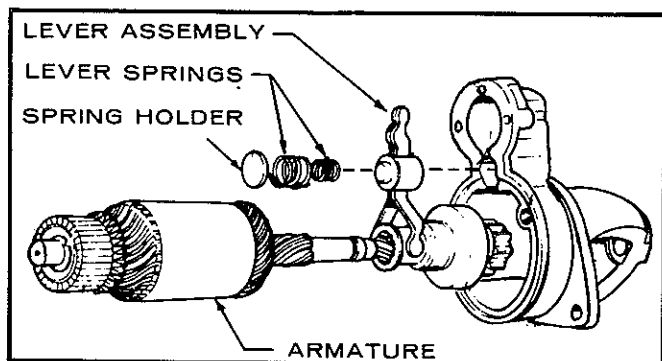

FIGURE 18-10. REMOVING THE ARMATURE
4. On the solenoid shift units remove the armature from the front bracket. Be careful not to miss the small steel washer used in the end of the armature shaft. Remove the shift lever at the same time the armature is removed. Remove the spring holder, lever springs and retainer prior to the lever (Figure 18-10).